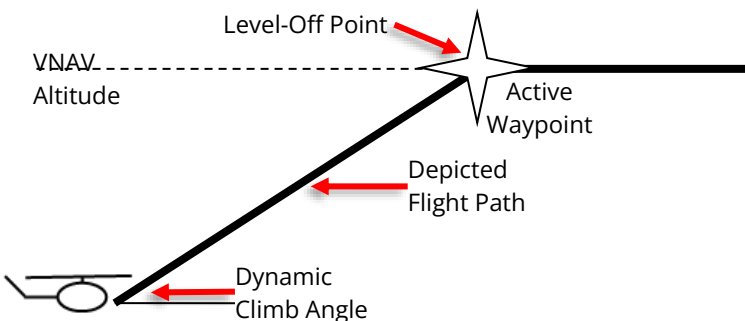

Figure 6-7: Highway in the Sky (Geo-Referenced Forward)
- 2) The dynamic climb angle emanating from the next waypoint VNAV altitude (geo-referenced forward) (Figure 6-7); OR